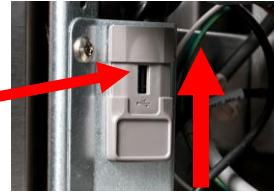

Figure 5
- INSERT USB.** Insert the USB marked 8122629. The USB port is located inside the **far-left cabinet, on the left-hand side**. Slide or lift the cover up to reveal the USB port (see Figure 5). These may differ in appearance.